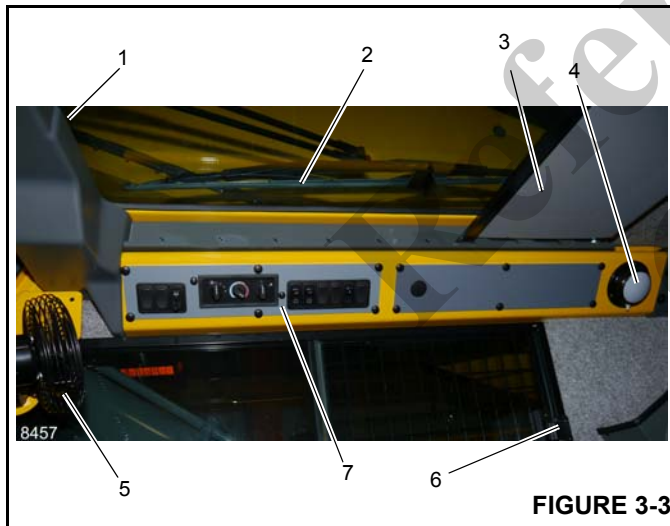
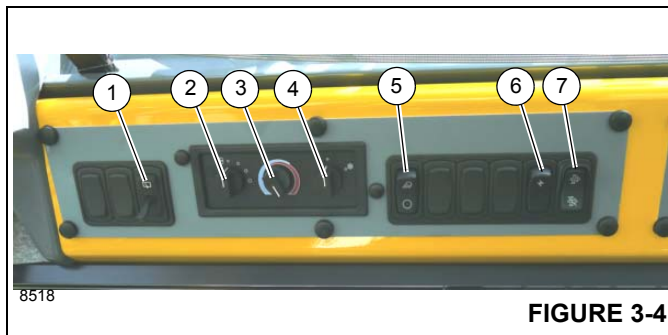

FIGURE 3-3
FIGURE 3-4
The Skylight Window Latch (1) (Figure 3-3) is at the front of the window. Squeeze the latch and slide the window to the rear to open. To close slide the window forward until the latch engages.
The Skylight Wiper (2) (Figure 3-3) is controlled by the Skylight Wiper Switch, (4) (Figure 3-4), and operated by the Wiper Motor.
The Skylight Sunscreen (3) (Figure 3-3) is used to diminish direct sunlight. The sunscreen is self retracting and can be set to screen all the light or adjusted rearward by moving it into the notches provided.
The cab Dome Light (4) (Figure 3-3) is on the right rear corner of the cab overhead console and provides illumination in the cab. The dome light is controlled by a switch on the light.
The Cab Circulating Fan (5) (Figure 3-3) is located on the left front side of the cab, above the window frame. A swivel allows the fan to be rotated and a switch on the fan base controls the fan. The switch has a high, low and off position.
The window on the right side of the cab can be opened. Squeeze latch (6) (Figure 3-3) to release and slide forward. To close, slide the window rearward until the latch engages.
The electrically-operated Skylight Wiper is installed to remove moisture from the skylight. The Skylight Wiper is controlled by the Skylight Wiper Switch (1) (Figure 3-4). This switch has 6 positions, including the intermittent setting.
The Heater/Air Conditioner Fan Speed Switch (2) (Figure 3-4) controls the cab fan's speed. Fan speed controls the volume of heated air output (or cooled air output) of the fan. Settings are off, low speed, medium speed, and high speed.
The Heater Control Switch (3) (Figure 3-4) controls intensity of heating temperature. Turn the switch to the right (clockwise) to open the valve for heat. (Heat comes from heated fluid going through the heater coil.) Turn the switch to the left (counterclockwise) to close the valve to stop fluid flow and minimize heat.
The Air Conditioning Switch (4) (Figure 3-4) controls the operation of the optional air conditioning system. Settings are off (O) and on (I).
The Work Lights Switch (5) (Figure 3-4) controls the crane's work lights mounted on the bottom front of the superstructure cab. Press the top of the switch to turn on the work lights. Press the bottom of the switch to turn off the work lights.
The Crane Function Power Switch (6) (Figure 3-4) is located on the overhead control panel. This spring return switch permits the operator to activate all crane functions at once or disconnect power from the crane functions controlled by the remote controllers on the armrests. Pressing it turns ON all crane functions. Pressing a second time turns OFF all crane functions. Turn off all crane functions to prevent inadvertent operation of functions due to bumping the controllers while roading or any other operation.
The Exhaust System Cleaning Switch (8) (Figure 3-4) is located on the right side of the overhead control panel. This switch is a three position switch, Inhibit Cleaning/Permit Active Cleaning/Initiate Manual Cleaning. Center position enables clean to occur when required, or press this switch to force manual cleaning to begin immediately or to disable cleaning indefinitely:
The Inhibit Regeneration Indicator (25) is located in the CCS display (Figure 3-14). When the Regen Switch (7) (Figure 3-4) is in the inhibit regeneration position, this amber indicator is illuminated and active and manual regeneration is prevented.